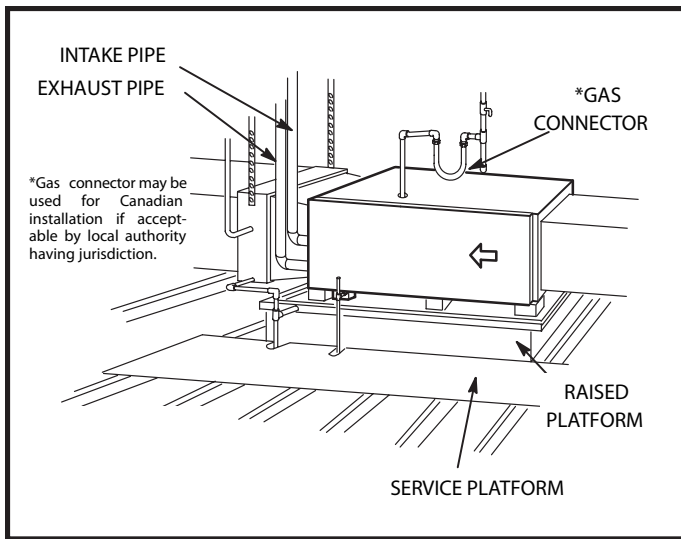

Figure 17
This furnace may be installed in either an attic or a crawl space. Either suspend the furnace from roof rafters or floor joists, as shown in Figure 16, or install the furnace on a platform, as shown in Figure 17. A horizontal suspension kit (51W10) may be ordered from your distributor or use equivalent.
2. Construct a raised wooden frame and cover frame with a plywood sheet. If unit is installed above finished space, fabricate an auxiliary drain pan to be installed under unit. Set unit in drain pan as shown in Figure 17. Leave 8 inches for service clearance below unit for condensate trap.